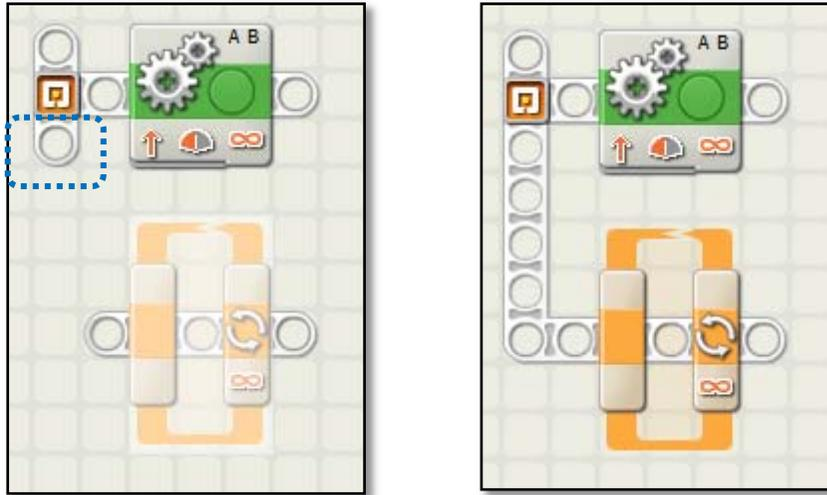

Figure 17 Parallel sequences
**Step 3.** Drag and drop a Loop block below the Move block (figure 17).
**Step 4.** Move your mouse over the starting point, the mouse point will change to a wire connector. Press left button and hold it, then move the sequence connector over the sequence of the Loop block. The two sequences will connect automatically (figure 17).